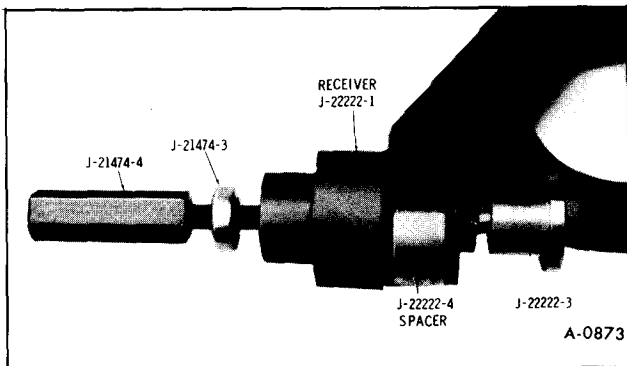

Figure 19—Removing Upper Control Arm Bushing
4. Move control arm out of frame brackets and attaching bushing removal tools as shown in Figure 19.